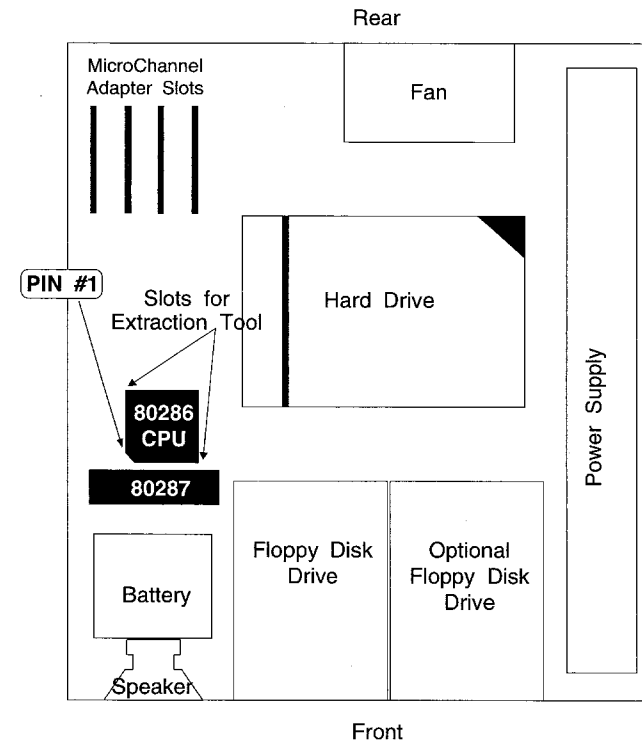

Figure 11. IBM PS/2 Model 50Z System Board
**Note:** The position of pin 1 on the 80286 processor chip will determine **exactly** how the 386SLC or 486SLC2 Cached Processor Upgrade Card will be installed. The location of pin 1 shown in figure 11 is correct for the motherboards we have worked with in developing the card. It is possible that alternative motherboard designs or engineering levels exist and the location of pin 1 on your motherboard is definitive.
11. If you have an 80287 co-processor installed, this must also be removed. Locate the 80287 co-processor as shown in figure 11 and insert a small flat-blade screwdriver under the end of the chip. Gently pry upwards, repeat for both ends. Once the pins have been sufficiently exposed remove with your fingers. (Save the 80287 co-processor in the event you need to temporarily return to the old configuration. The math co-processor should also be stored in the antistatic bag.)